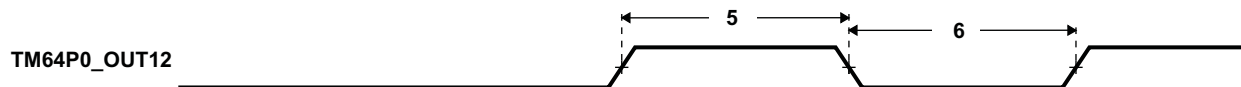

**Figure 6-60. Timer Timing**
**Table 6-88. Timing Requirements for Timer Input(1) (2) (see Figure 6-60)**